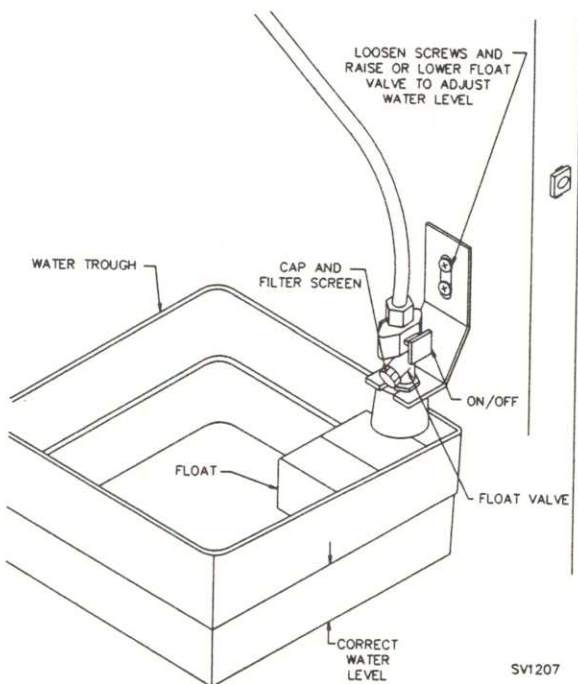

Figure 6. WATER LEVEL CHECK
**WATER LEVEL CHECK (Figure 6)**